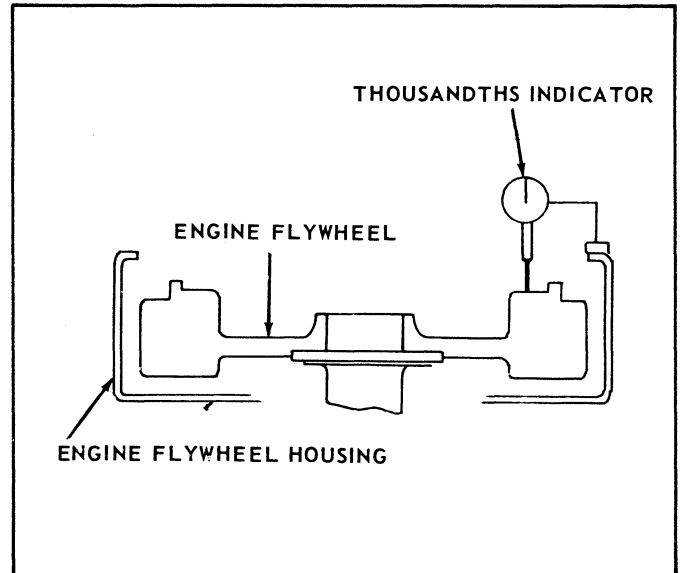

Figure 41. Checking the Face of the Engine Flywheel Housing.
B. Checking Face of Engine Flywheel Housing. Bolt a thousandths indicator or gauge to the engine flywheel so that the indicator is perpendicular to the face of the engine flywheel housing, and the indicator stem is riding on the face of the flange (fig. 41). Rotate the engine flywheel and note the face deviation of the engine flywheel housing flange. The face deviation must not exceed .008 inch.